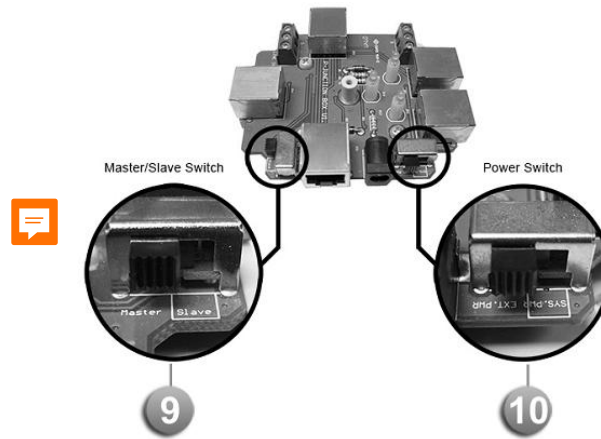

Figure 1
10. 1 x internal switch inside the JB for System Power or External Power, see Figure 1.